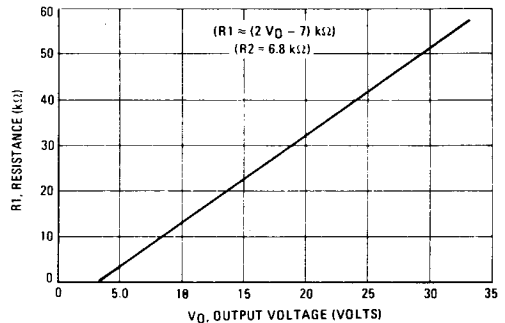

FIGURE 11 — R1 and R2 versus  $V_O$
b) For  $2.5 \leq V_O \leq 3.5$  Vdc — Output voltage is set by resistors R1 and R2 (see Figure 5). Resistors R1 and R2 can be determined from the graph of Figure 11 or from the equations: